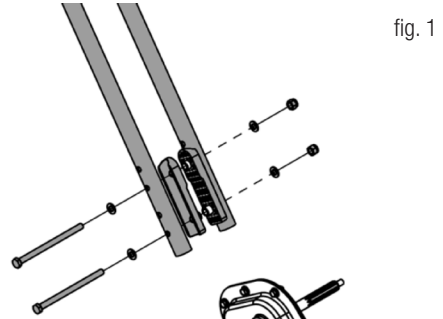

fig. 1
1. Mount the lower section of the handlebar. Use the supplied brackets and bolts. You can choose between 2 different handlebar heights. fig. 1.